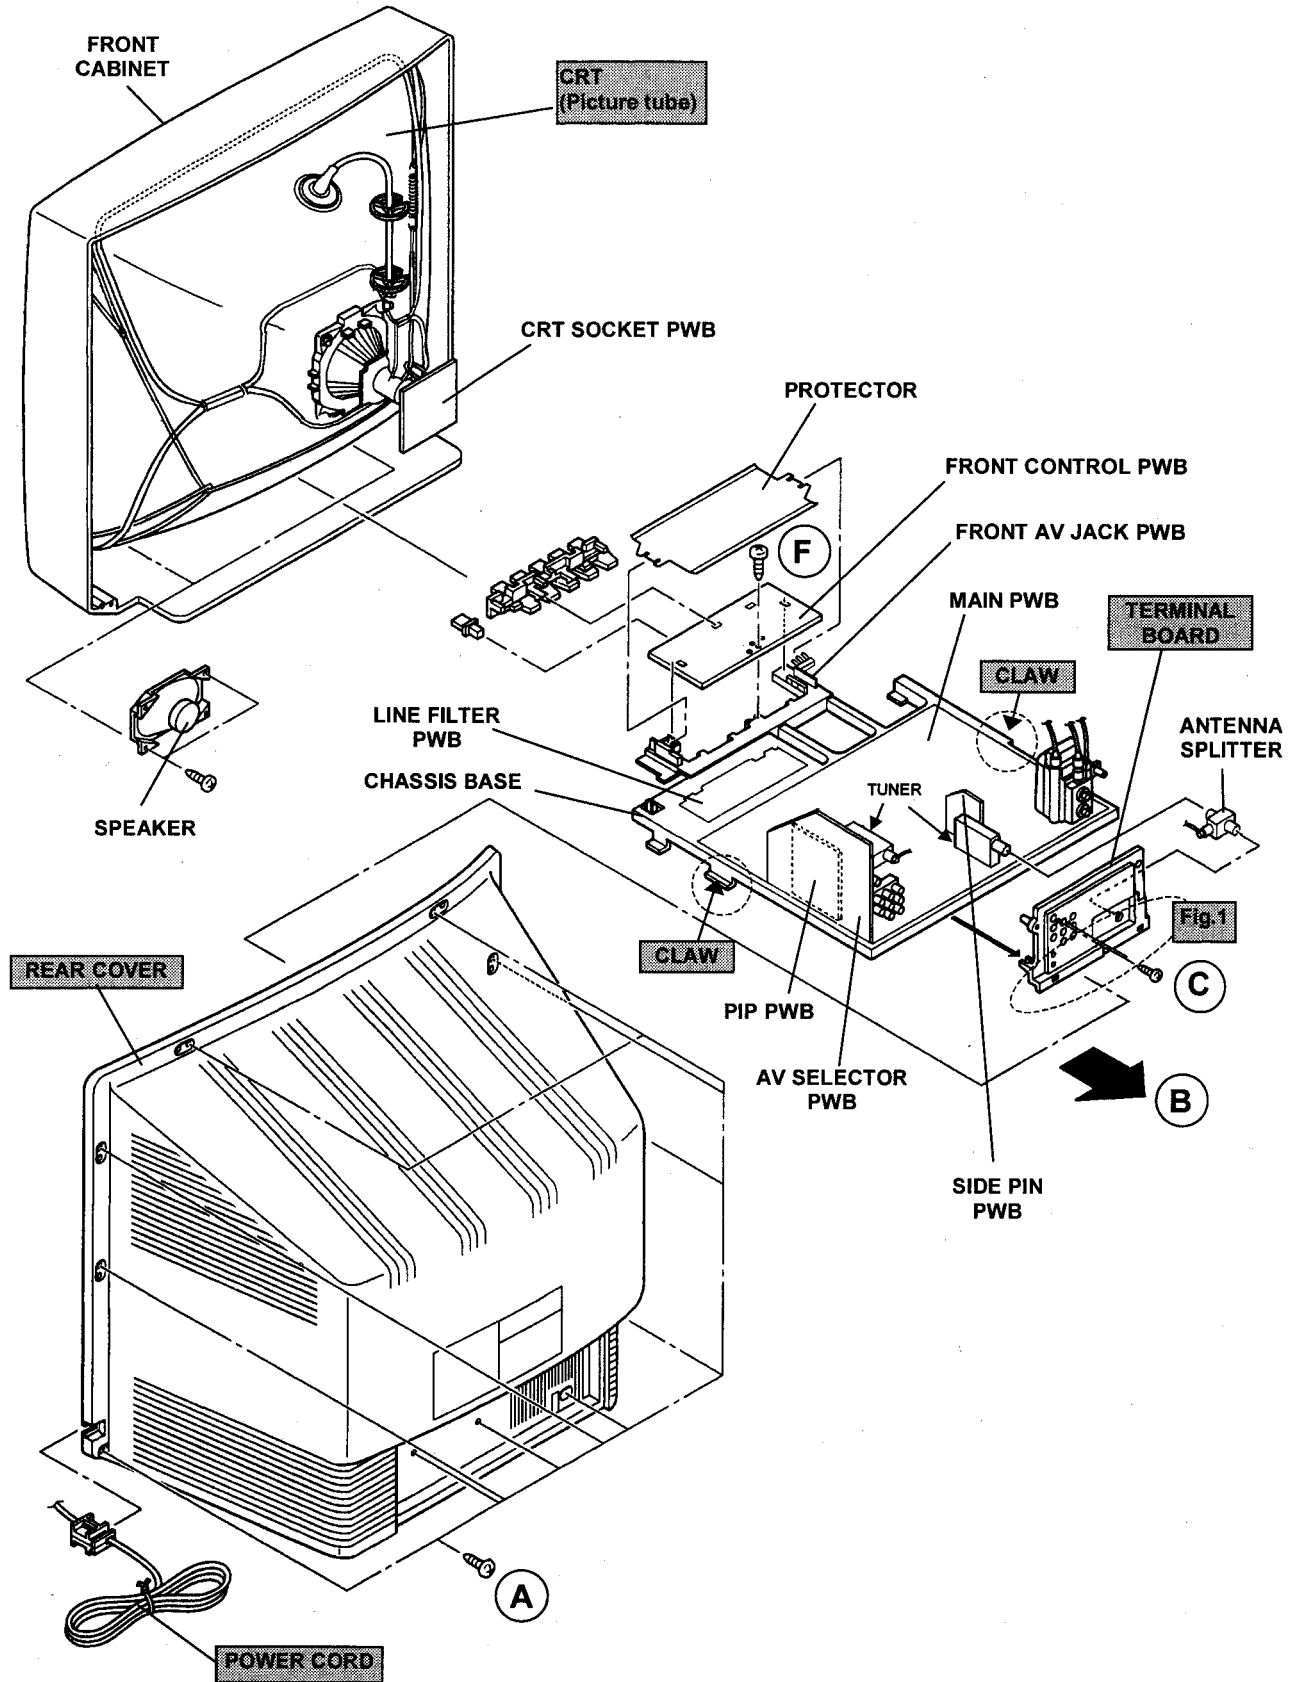

Fig. 2
1. As shown in Fig.2, remove the screw marked (F) .